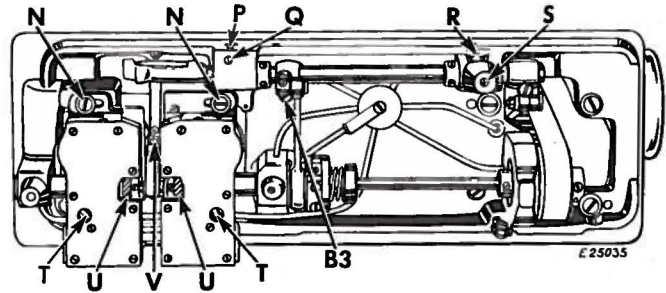

Fig. 18
needles. Loosen the four screws N,N and T,T, Fig. 18 underneath the bed of the machine and move the hook saddles to the right or left, as may be required, until the points of the hooks are as close to the needles as possible without striking them, then securely tighten the four screws N,N and T,T.
**CAUTION:** Make sure hook driving gears U, Fig. 18 are set correctly with relation to face of hook saddle. Use .008 shim.
The feed rock shaft is carried in split bushings which can be adjusted to take up any wear which may occur. Loosen the two lock screws **Q** and **R**, Fig. 18 and turn in the two adjusting screws **P** and **S**, Fig. 18 until all lost motion of the rock shaft has been eliminated, then securely tighten the lock screws **Q** and **R**.
Remove the throat plate; clean the lint and dust from between the feed points and replace the throat plate; tip the machine back and turn the machine pulley towards you until the feed dog is at its highest position; loosen screw **V**, Fig. 18 in the feed lifting cam fork and raise or lower the feed dog, as may be required. Then tighten the screw **V**.
The feed dog should be set so that when the needles are down, they will be slightly in front of the center of the needle holes (toward the operator). In case the needles do not enter the holes in the feed dog correctly, loosen the pinch screw **B3**, Fig. 18 and adjust the feed dog as required, then securely tighten the pinch screw **B3** and check the relative position of the needle and presser bars as instructed on page 10.